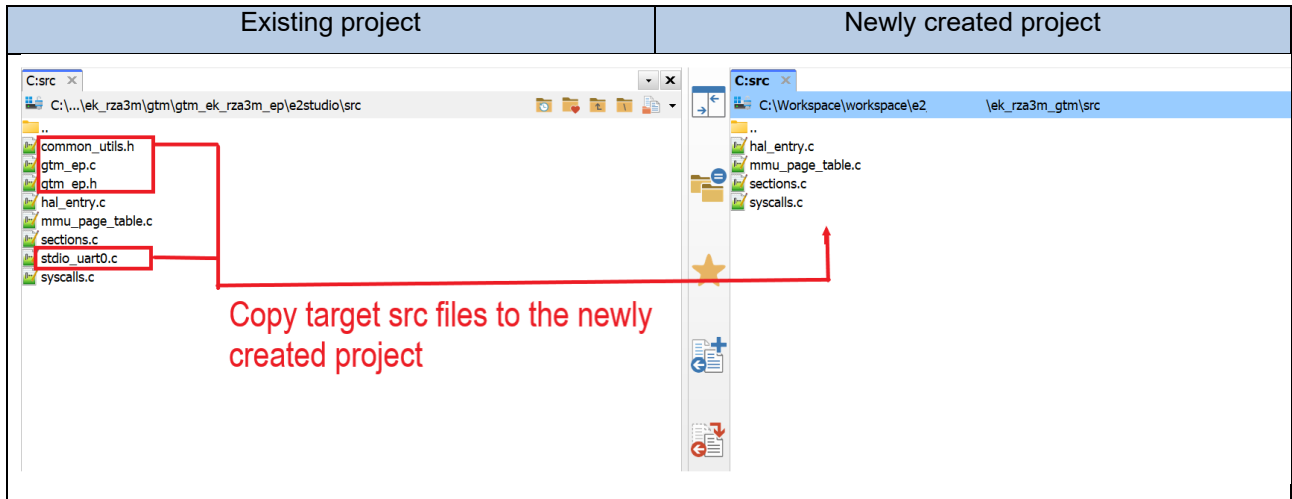

Figure 8. Copy existing source files to the new project
- Update the src folder by copying example code from the existing project's src folder, excluding hal_entry.c and all FSP-generated files, as shown in Figure 8. Do not replace FSP-generated files, as doing so may cause unexpected errors.